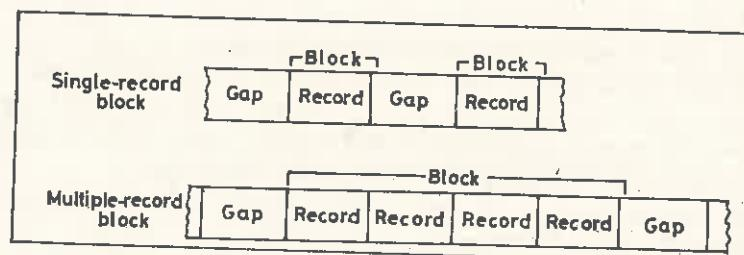

Fig. 36.9. Nine-track magnetic tape.
(3) Magnetic Tape
- Magnetic tape consists of a plastic base coated with an iron oxide coating. Tape measuring 1/2" wide is most common (Fig. 36.9).